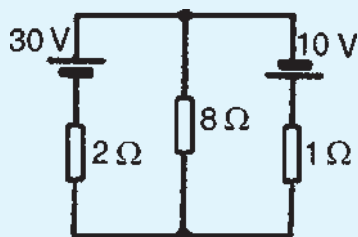

Figure 13.26
2. Use the superposition theorem to find the current in the 8Ω resistor of Fig. 13.26.